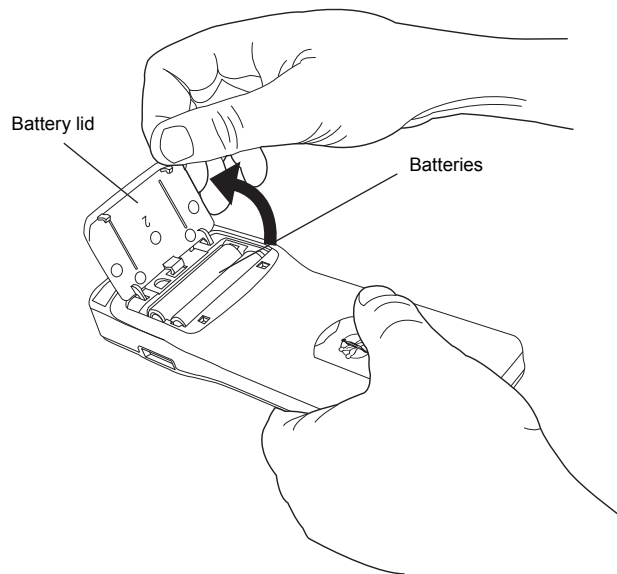

Figure 43. Battery compartment.
2. Lift the battery compartment lid (Figure 43).